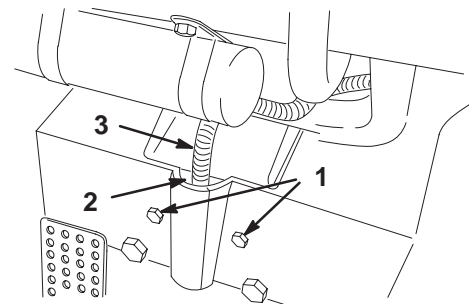

Figure 2
1. Remove the 2 small bolts securing the panels to the front of the operator's compartment (Fig. 2).
- Remove the tape from the terminals and wire. Loop the control plug back into the tube at the front of the vehicle and feed it up through the harness opening below the dash (Fig. 2).